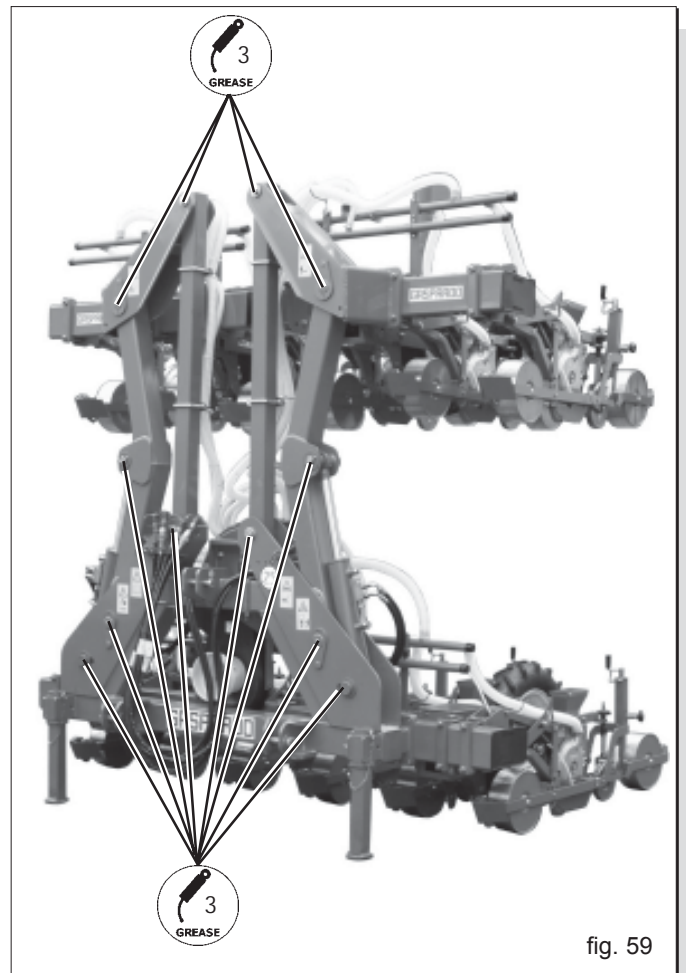

fig. 59
- Grease the row-marker arm pin (2 Fig. 59).